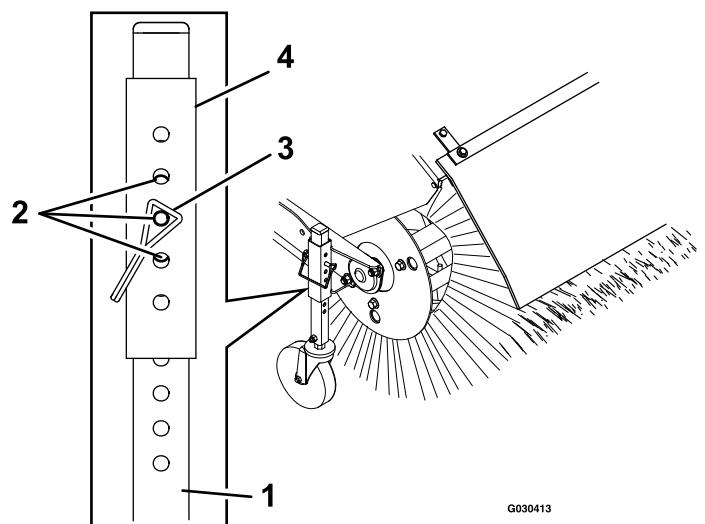

Figure 9
5. For finer adjustment, slide the adjuster sleeve 1 pin hole up or down on the caster wheel tube to adjust the broom height in 3 mm (1/8 inch) increments (Figure 9). Repeat steps 3 through 5 for the other caster wheel.
3. To adjust the broom height, remove and retain the pin from the adjuster sleeve and wheel tube of the caster (Figure 9).